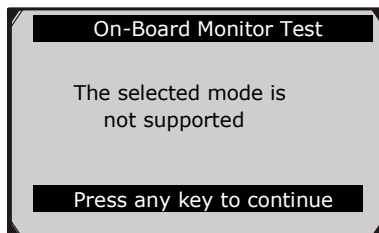

Figure 5.29
- If the vehicle under test does not support the mode, an advisory message will be displayed on the screen. (Figure 5.29)